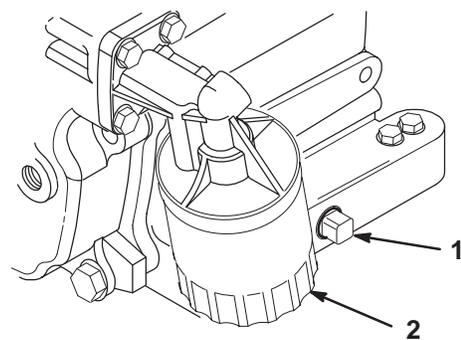

Figure 17
- Remove the drain plug (Fig. 17) and let the oil flow into a drain pan. When the oil drains completely, install the drain plug.
2. Remove the existing oil filter (Fig. 17). Apply a light coat of clean oil to the new filter gasket.